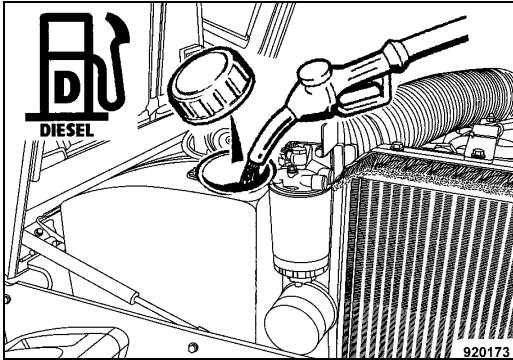

Fig. 121
- Open the fuel tank cover (Fig. 121).